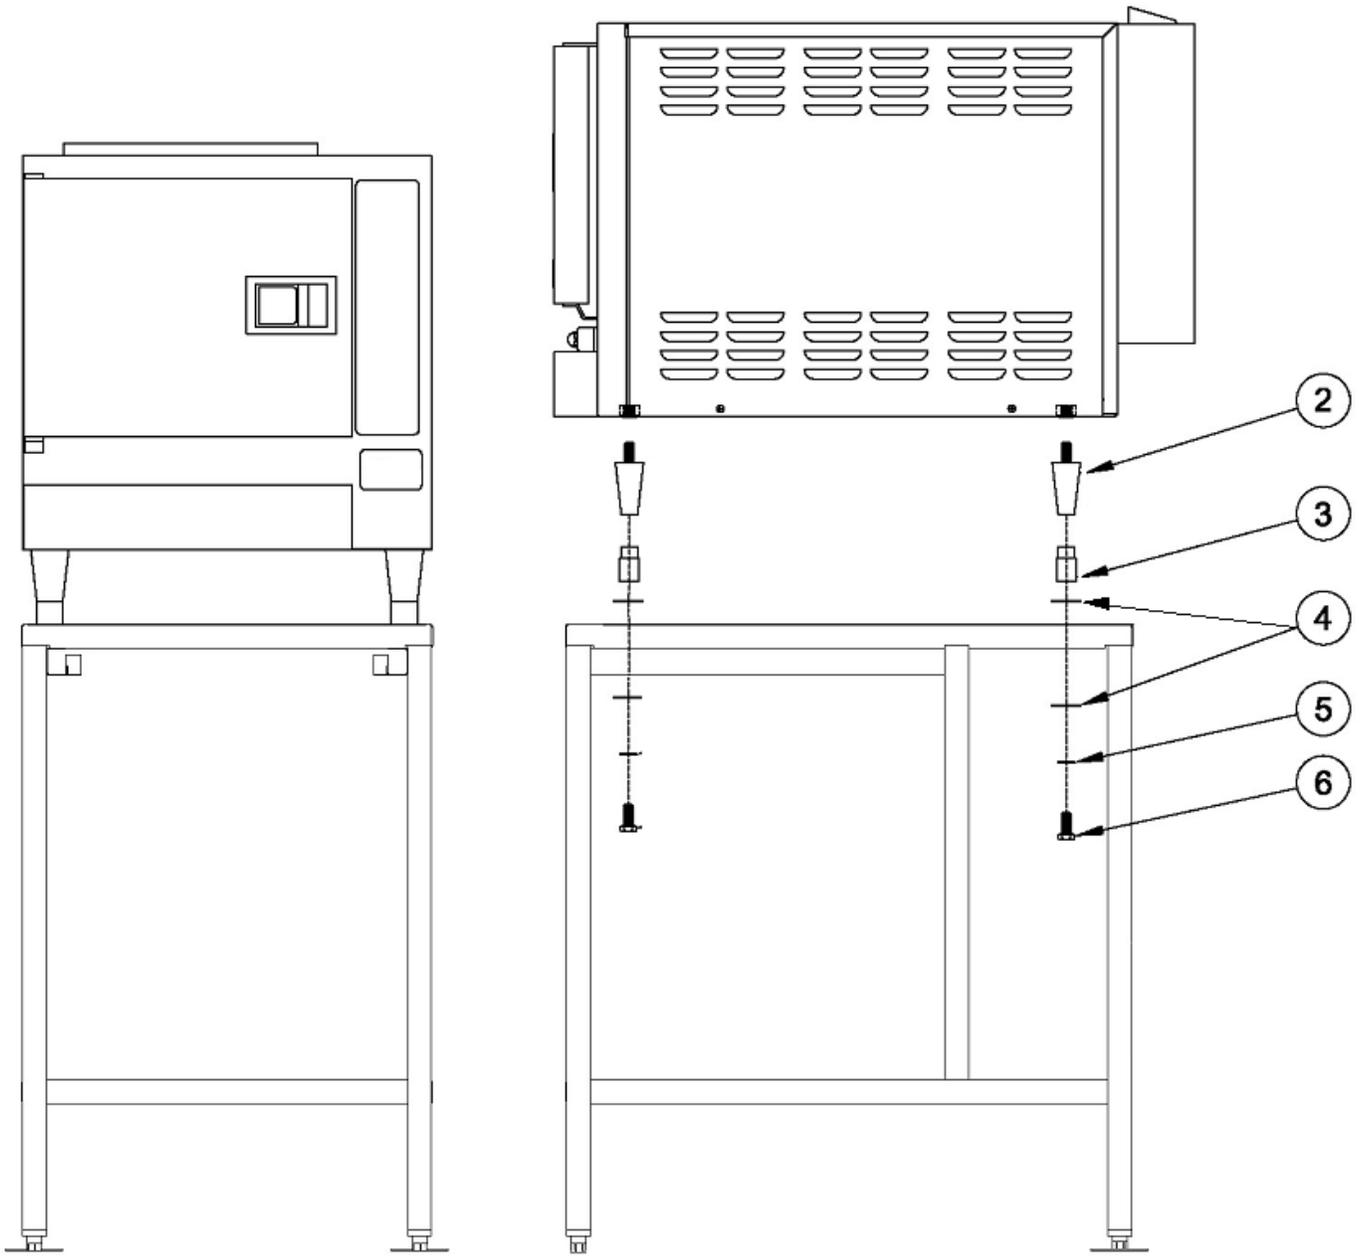

Figure 2
2. Set the steamer directly on stand as shown in Figure 2.